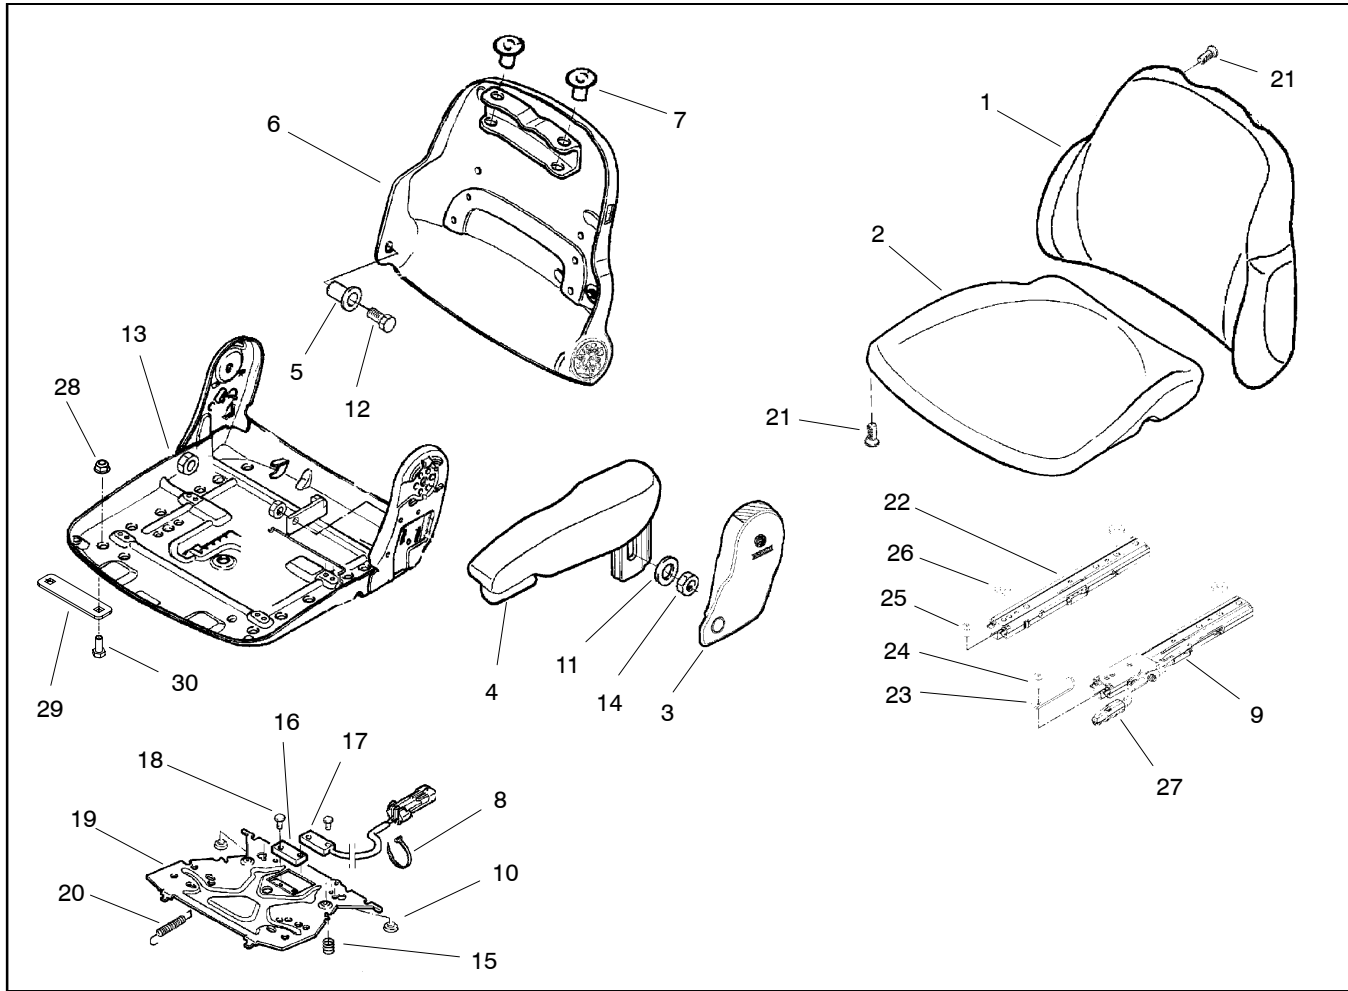

Figure 14
Disassembly (Fig. 14)
1. Disassemble operator seat as necessary using Figure 14 as a guide.
Assembly (Fig. 14)
1. Assemble operator seat using Figure 14 as a guide.